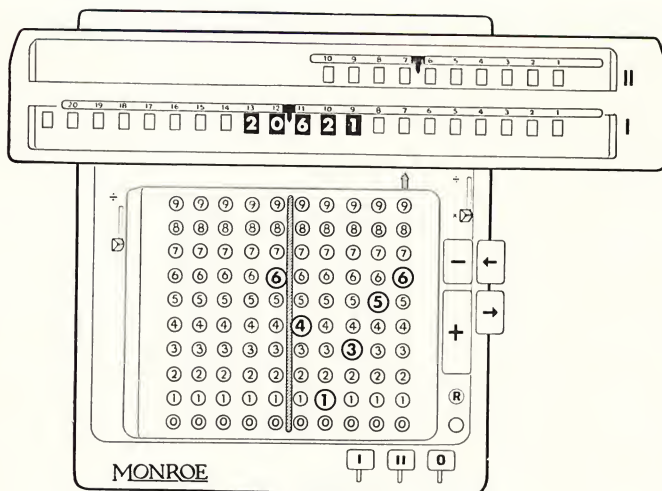

Figure 13
Step 4—Clear the keyboard and upper dials with the two right-hand clearance bars. Set 6.41356 on the keyboard. Carriage is already in “7” position ready for the division, as pictured in Figure 13.